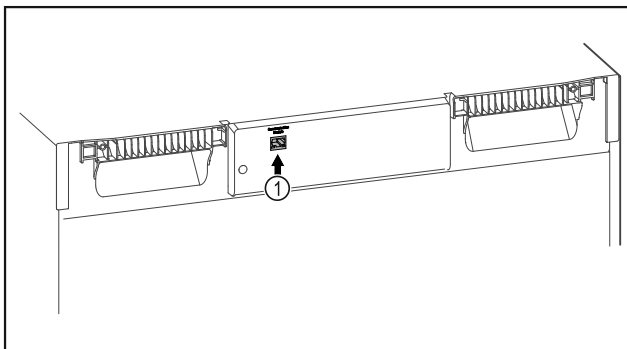

Fig. 105
- SmartModule Fig. 105 (1) is in use.